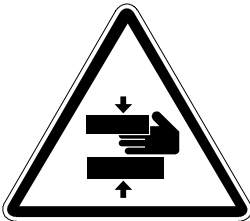

**Figure 5-4: Connecting Main Beams**
5. Assemble the main beams and cross beams for the other modules. If the scale has three or more modules, install both end modules before the middle module(s). The end modules have transfer bars and must be in place so that the adjoining modules can rest on the transfer bars (see Figure 5-4).
6. Use tie rods to loosely connect the main beams of adjoining modules (see Figure 5-4). Leave no gap between the transfer bar and alignment block (multiple module scales only).